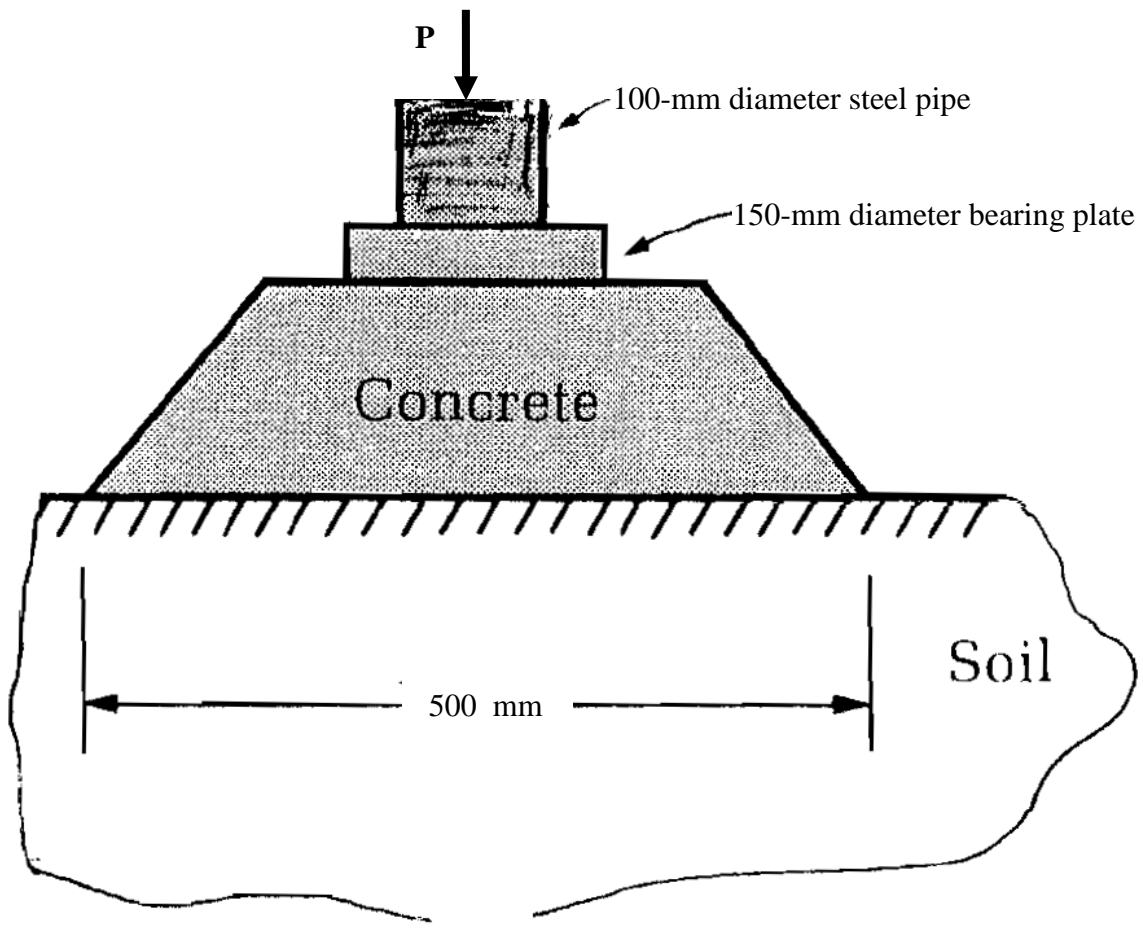

Fig. P5
- 5) The base of the square concrete footing shown in Fig. P5 is 500 mm × 500 mm. Determine the maximum allowable load **P** that can be applied if